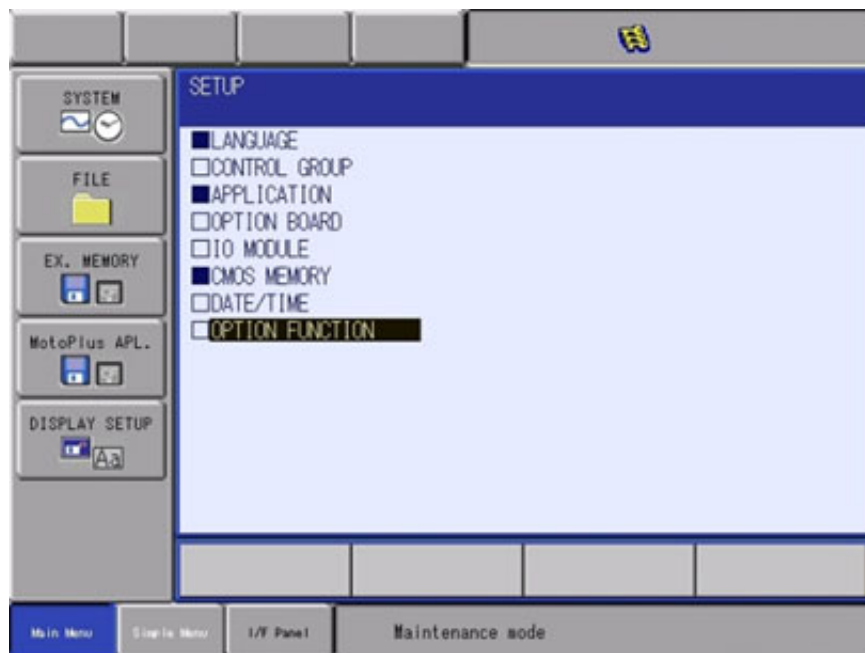

Figure 217: Option Function Menu
5. Enter "Option Function." See Figure 217 (below).